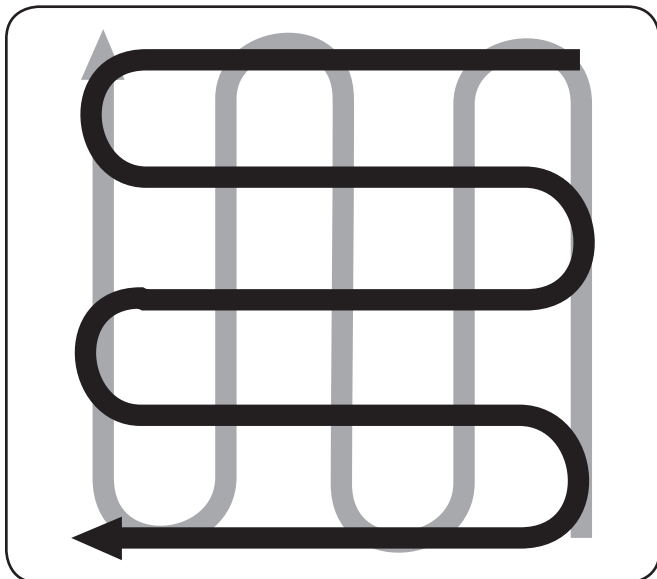

Figure 5-6
- When finished tilling in one direction, make a second pass at a right angle as shown in Figure 5-6. Overlap each pass for the best results. In very hard ground it may take three or four passes to thoroughly pulverize the soil.